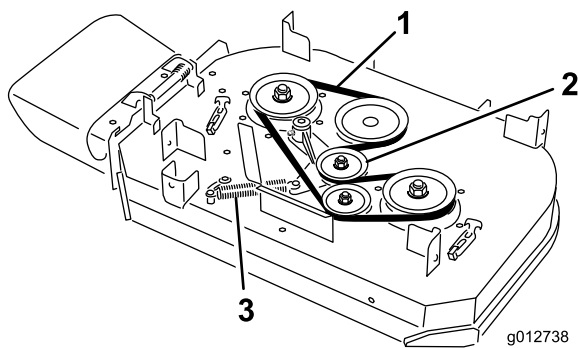

Figure 64
4. Remove the spring from the anchor post on the idler-pulley arm (Figure 64).
5. Remove the worn mower belt (Figure 64).
6. Install the new mower belt around the clutch pulley, the deck pulleys, and the idler pulley (Figure 64).
7. Install the spring onto the anchor post on the idler-pulley arm (Figure 64).